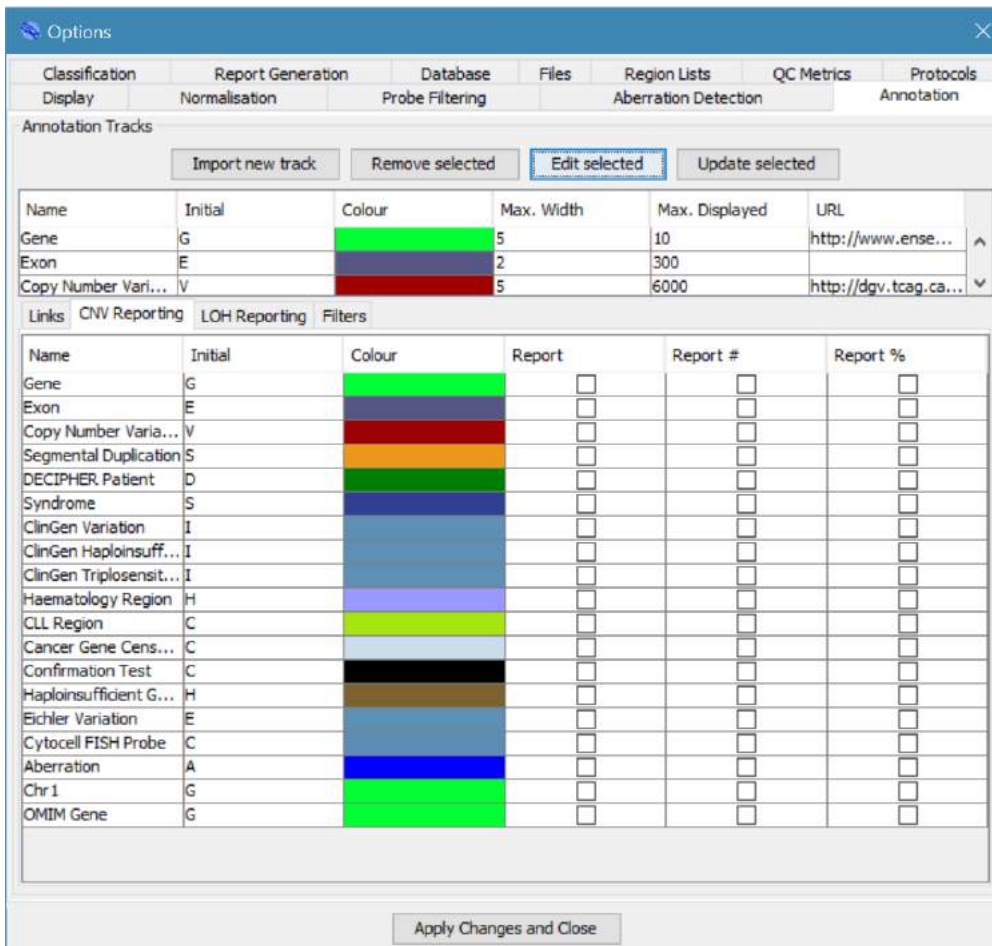

Figure 9: Annotation tab of Options menu.
1. Navigate to **Tools -> Options... -> Annotation** and choose the **CNV** or **LOH Reporting** tab on the table. The resulting window can be seen in Figure 9, where the table of interest is in the lower portion of the window.